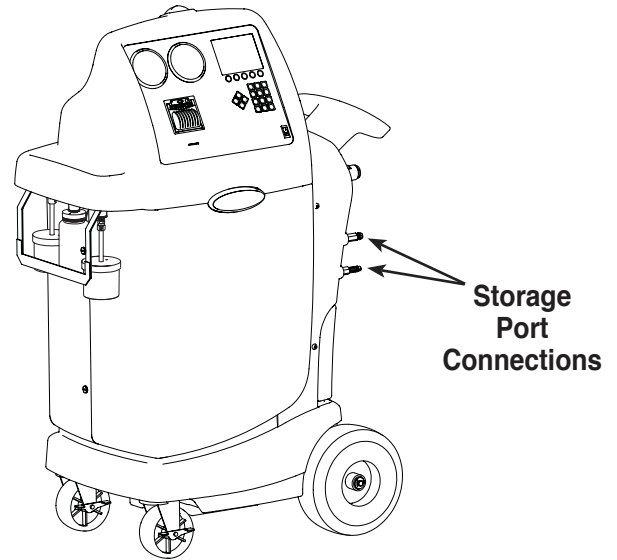

Figure 7
1. Connect the service hoses to the unit's storage port connections (shown in Figure 7).